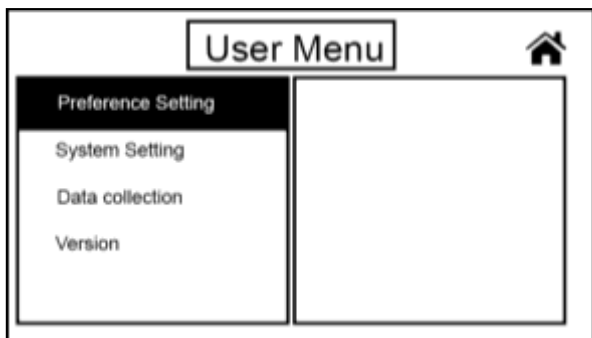
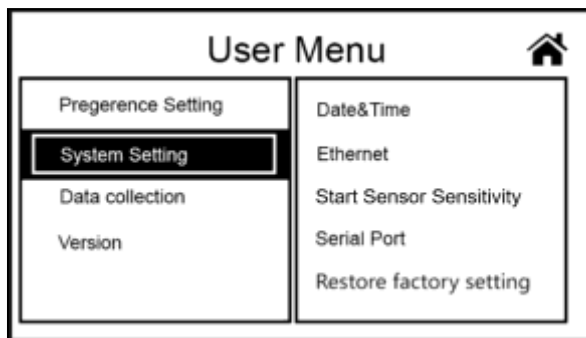

Figure 96
Figure 97
1) Touch the “Menu” key to enter the “User Menu” interface, as shown in Figure 96 below. Then press “System Setting” to enter the “System Setting” interface, as shown in Figure 97.